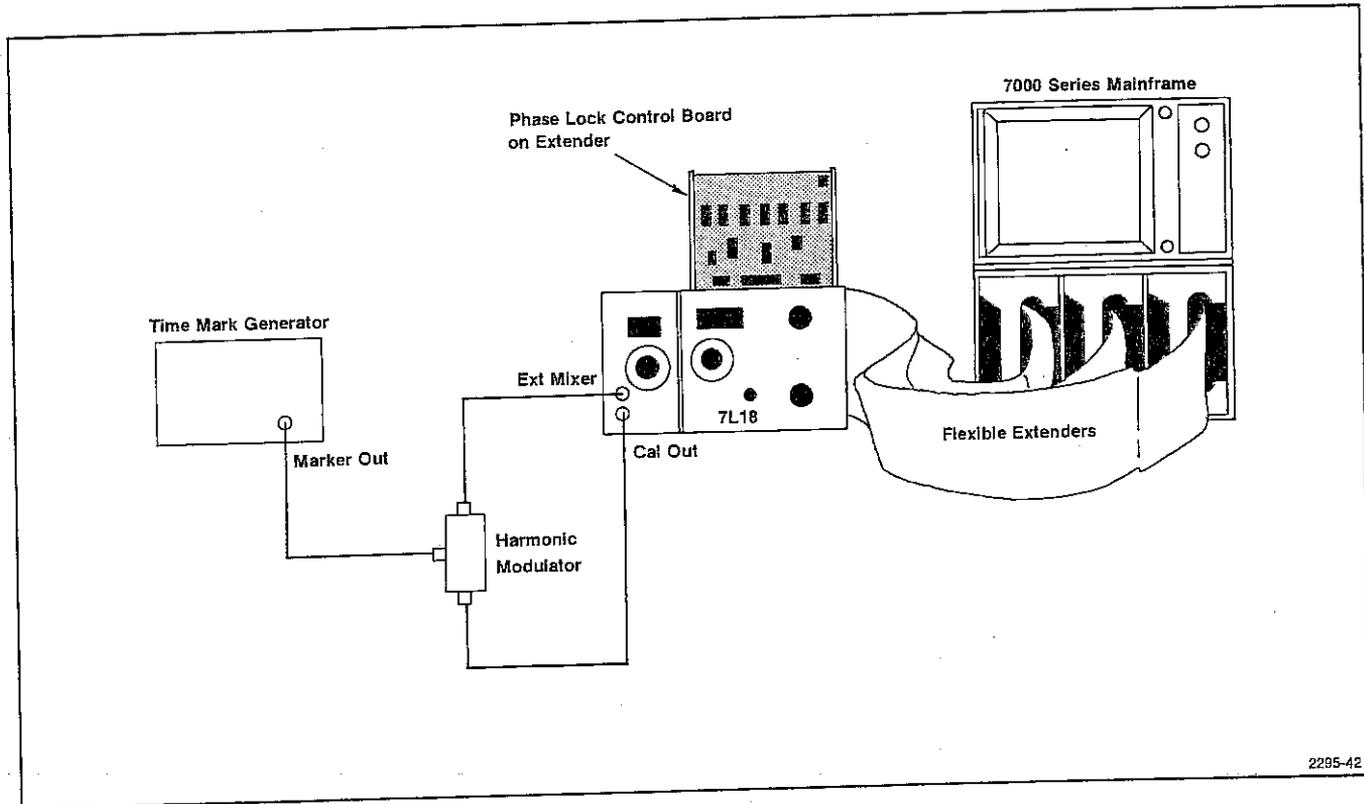

Fig. 4-34. Test Setup for Calibrating Phase Lock Control.
The Phase Lock module must be operative and the Phase Lock Logic Control module on an extender. Test setup is shown in Fig. 4-34. This procedure checks beat-note levels into the Phase Lock Control, sets the loop gain and the 50 kHz span for phase lock operation.
i. Apply the CAL OUT signal through the Harmonic Modulator to the RF INPUT so the Calibrator signal is modulated with 20 μ s markers from the Time-Mark Generator (see Fig. 4-34).